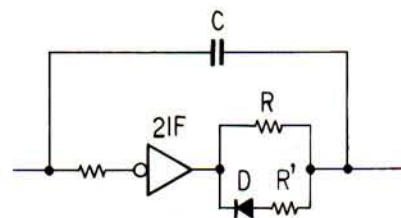

Fig. 1-15
3. The circuits of Figs. 1-15 and 1-16 are not oscillators but are integrators using the very high input impedance of MOS ICs. The purpose of using these circuits is to obtain some delay which is achieved by C and R.